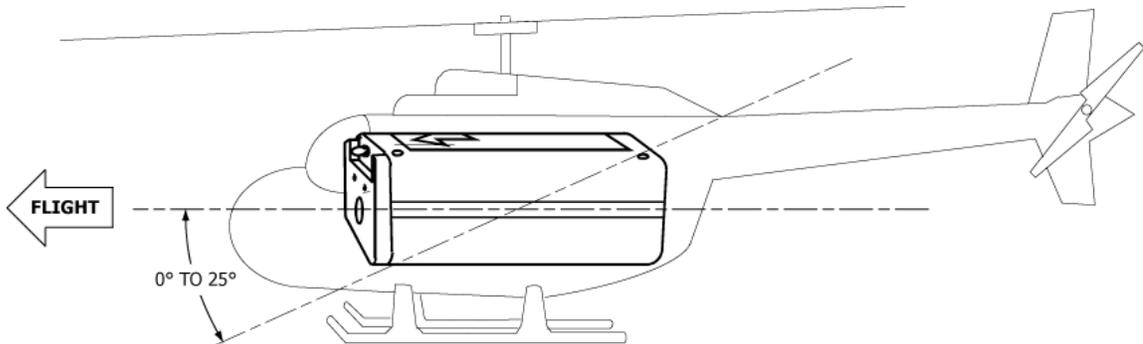

Figure 28 Orientation of ELT for Helicopter Installations
- 1) Mount the C406-N HM ELT parallel to the waterline of the fuselage, along the longitudinal axis, with the direction-of-flight arrow on the ELT pointing forward. See Figure 28 Orientation of ELT for Helicopter Installations.